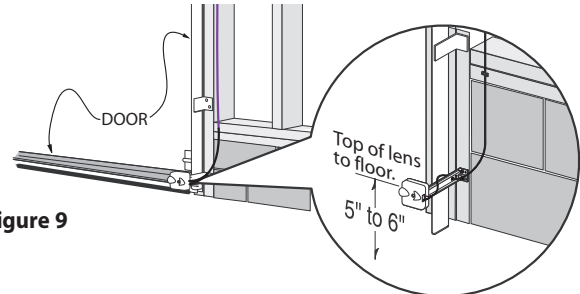

Figure 9
- Determine location for mounting. They do not need to be directly adjacent to the door but must be somewhere along the wall where there will be an unobstructed line between them. **Fig 9**.